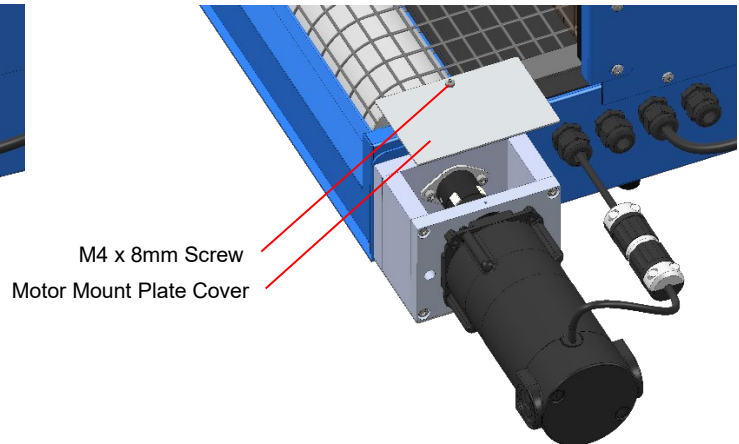

Figure 3. Remove Motor Mount Plate Cover
2. Remove the Motor Mount Cover Plate and M4 x 8mm screw(Figure 3). Set aside for later use.